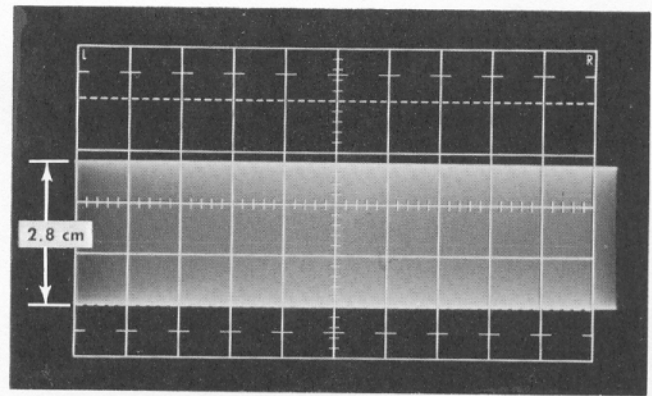

Fig. 7-38. Checking the trigger amplifier high-frequency 3-dB down point. Sweep rate: 0.5 ms/cm free running.
f. Without changing the Type 191 output amplitude, increase the output frequency until the deflection is reduced to 2.8 cm (see Fig. 7-38). This is the 30% down voltage point (equivalent to -3 dB). Use the Channel 2 POSITION control to position the display for convenient viewing.
l. Without changing the Type 191 output amplitude, set the Frequency dial to a point where the Channel 2 display is exactly 2.8 cm in amplitude (see Fig. 7-38). Use the Channel 2 POSITION control to position the display for desired viewing.